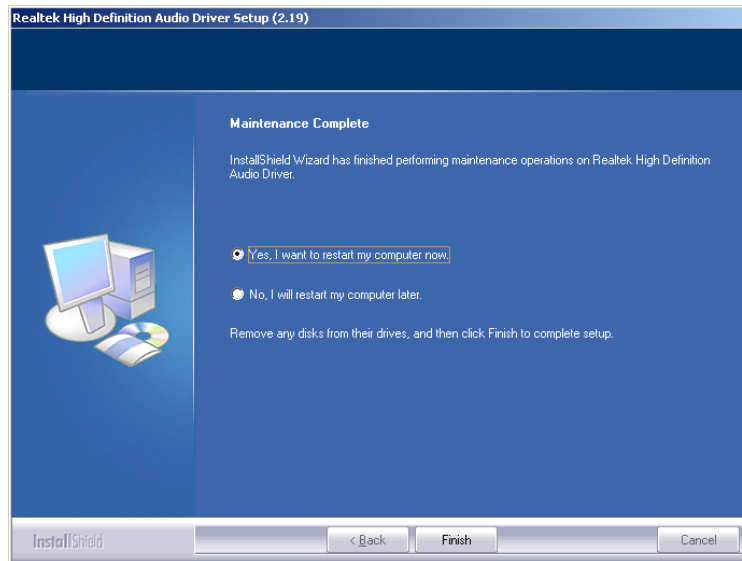

Figure 6-24: Restart the Computer
Step 10: After the driver installation process is complete, a confirmation screen appears (Figure 6-24).